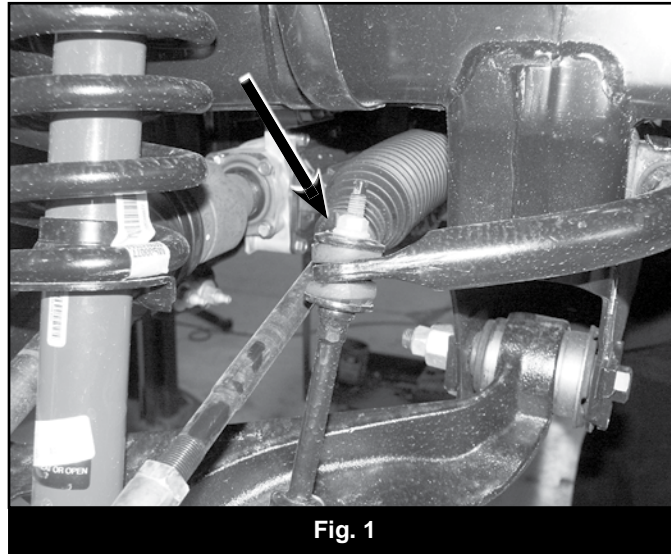

Fig. 1
4. Disconnect the sway bar links from the sway bar. Leave them attached to the lower control arm. (Fig 1).